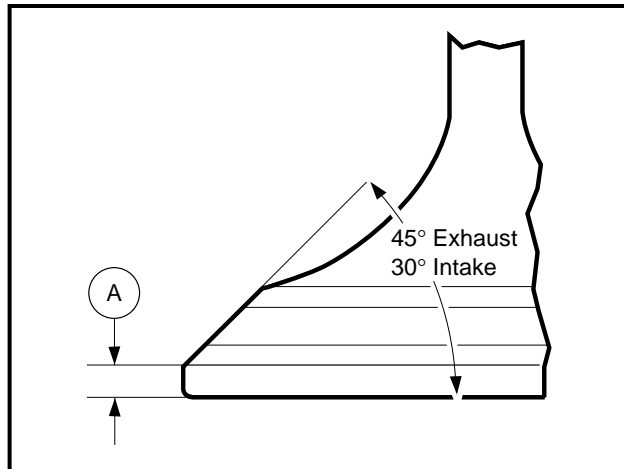

Figure 13-29 Valve Seating Surface Area
NOTE: The valve seating surface angle is 30° (intake), 45° (exhaust) (**Figure 13-29, Page 13-17**).
1. Measure the thickness of the valve head, as shown (**Figure 13-29, Page 13-17**).
2. If the valve head thickness (A) (**Figure 13-29, Page 13-17**) is less than 0.024 inch (0.610 mm), replace the valve.